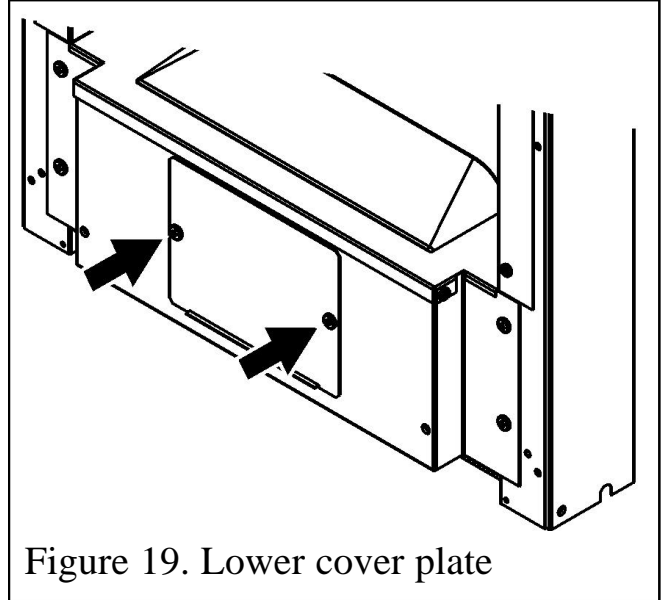

Figure 19. Lower cover plate
3. Remove the lower cover plate from the front of the heat engine. To do this remove the two screws (See figure 19).